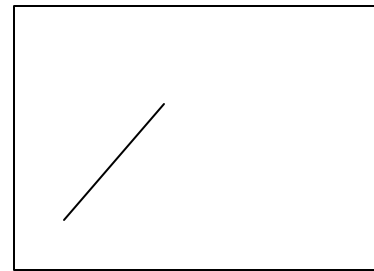

Figure 4: Drawing a line
1. Draw a line using the LINE command in the **Draw** menu, or using the “Line” icon in the icon area. Try to make the drawing look something like Figure 4.